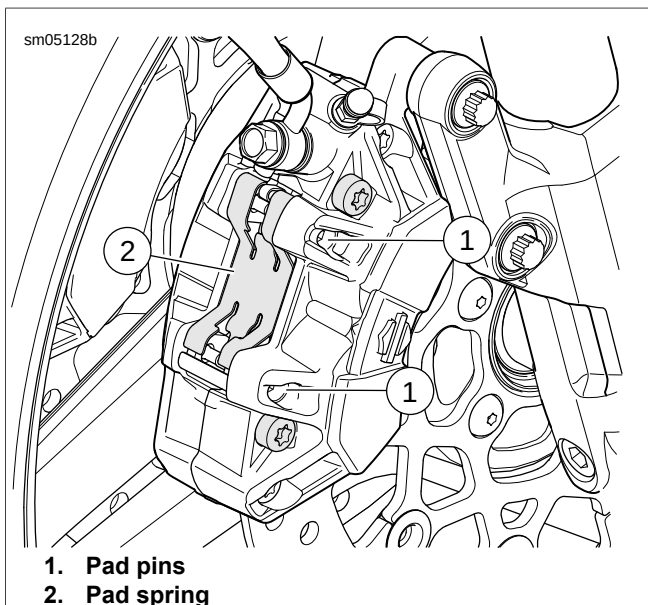

Figure 1-56. Front Caliper Assembly: XR 1200X
5. See Figure 1-56. Remove pad pins (1).
6. Remove pad spring (2) and brake pads through opening in caliper assembly.
1. See Figure 1-56. Install **new** outer brake pad and pad spring. Make sure friction material faces brake disc.